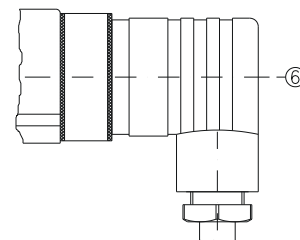

Fig. 10
- ⚡ Plug the cable socket ② on the connector ① and tighten the central screw ⑥ (⇒ Fig. 10).